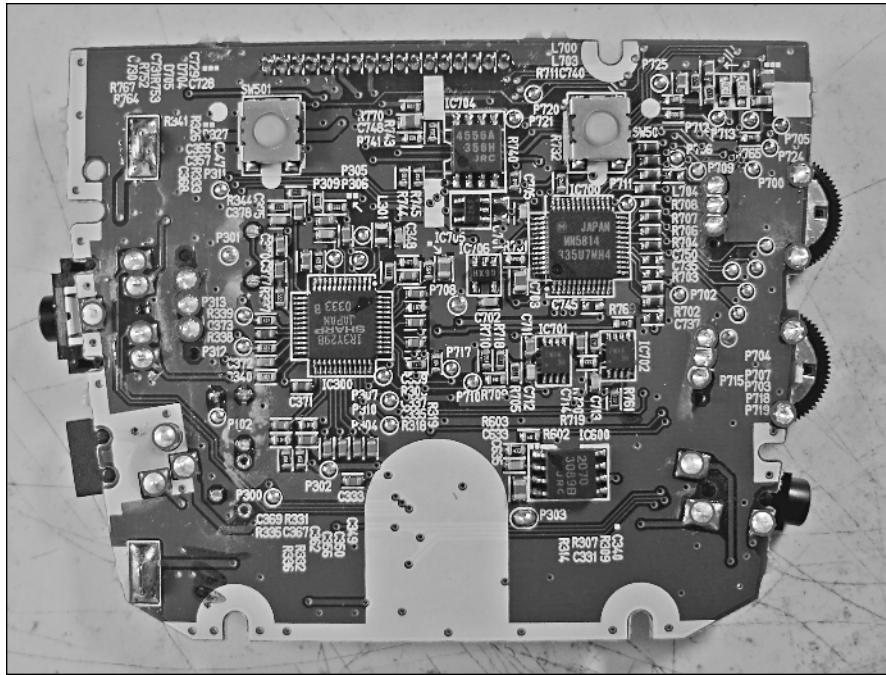

FIGURE 4-7: The front of the lower board, and what you should desolder.
6. Break off the battery wire tabs from the back of the lower board. (Save them if you're ever planning to make the hand-built SNES portable.) Now flip the lower board over—it should look as shown in Figure 4-7. Desolder every highlighted lead, remove the parts that were on those leads, and set them aside.